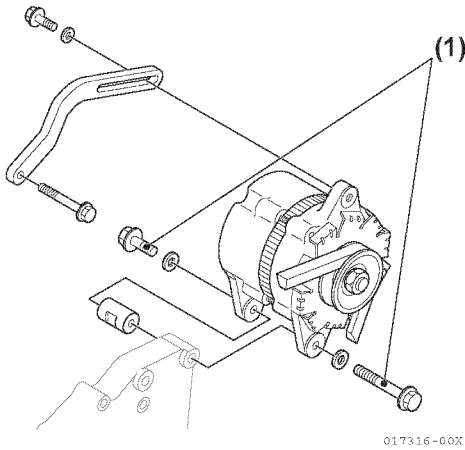

Figure 11-9
8. Remove two bolts (**Figure 11-9, (1)**) and remove the alternator from engine.